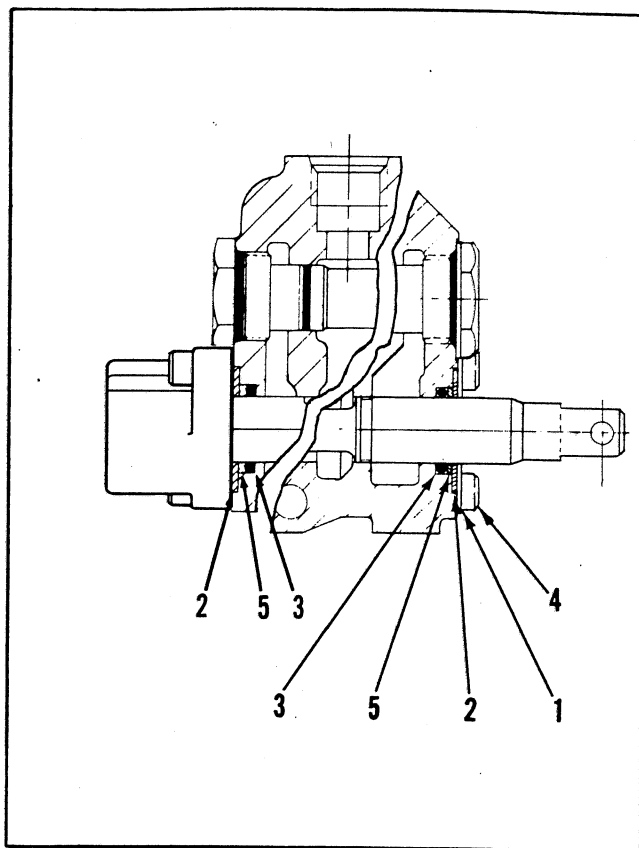

Figure 3-2. Spool Seal Assembly -
Figure 3-2 shows spool assembly—less the complete handle assembly. When handle bracket is furnished, retainer plates and screws (items 1 and 4, Figure 3-2) are omitted. Seal assembly is retained by the handle bracket which will also retain the optional wiper seal.
3. Remove retainer plate (Item 1, Figure 3-2), retainer plate washers (Item 2), back-up washers (Item 5), and spool seals (Item 3).